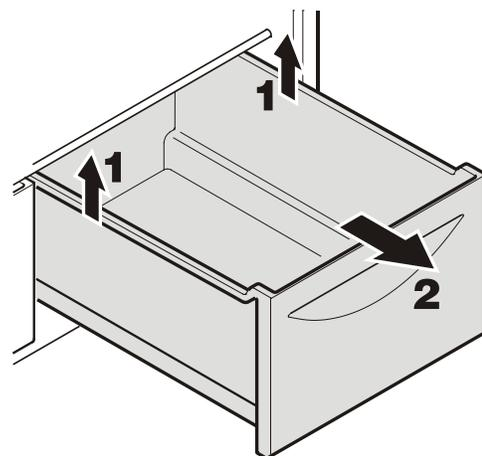

Figure 15
Pull the drawer straight out, grip at the back and lift out - *Figure 15*.
- Remove the vegetable drawers as shown in **Figure 15**.